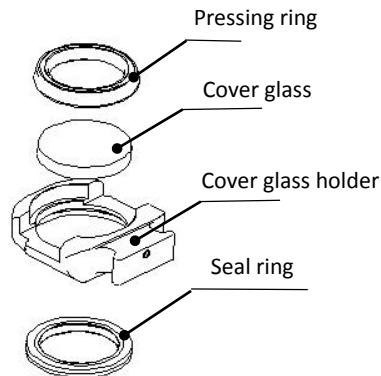

Figure 5.2 — Structure of cover glass holder
- As shown in Figure 5.2, open the buckle to pull out cover glass holder by pinching 2 edges of drawer type holder.